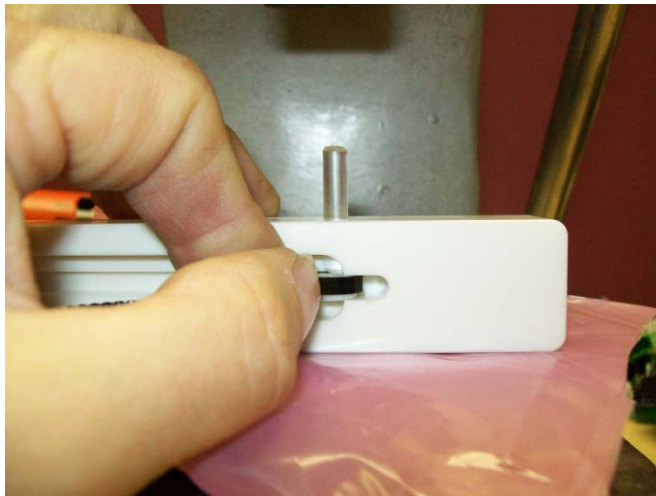

Figure 2-9
3. Using an awl or a press with a pin, press the axle out far enough to remove the wheel and belt. (As Shown below in Figure 2-9.)